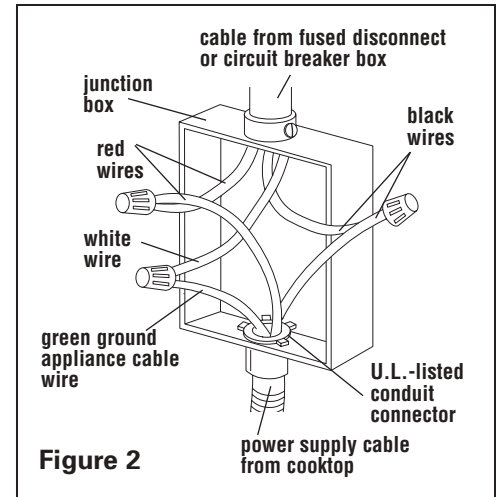

Figure 2
7. Connect the green power supply cable wire to the neutral (white) wire in junction box with twist-on connector. See Figure 2.